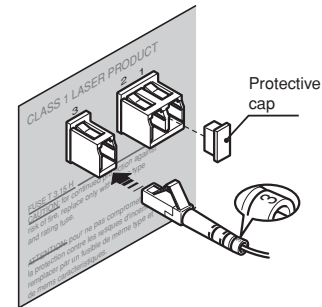

Fig. 4
- Take particular care when inserting fibre optic connectors in their respective sockets on the rear panel of the DigiOptic™ Image Processor and the rear panel of the Display (Fig. 4).
After removing the protective caps from the fibre optic cable connectors and the panel connectors, insert the fibre optic connectors carefully, matching the numbers shown on each element (Fig. 4). Be very careful when handling optical fibres cable and connectors.